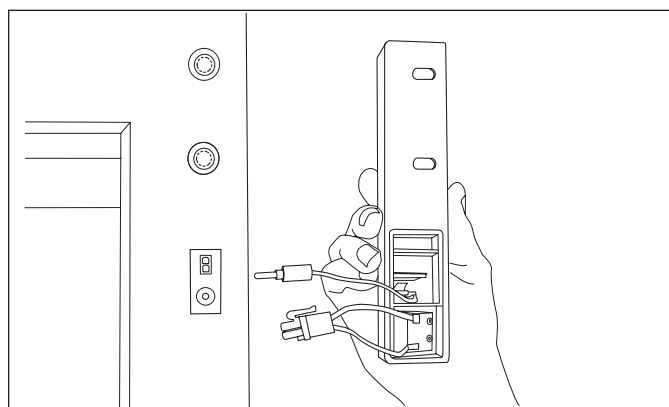

Figure 7-8. Disconnect Wire Leads
3. Disconnect wire leads from unit (See Figure 7-8).